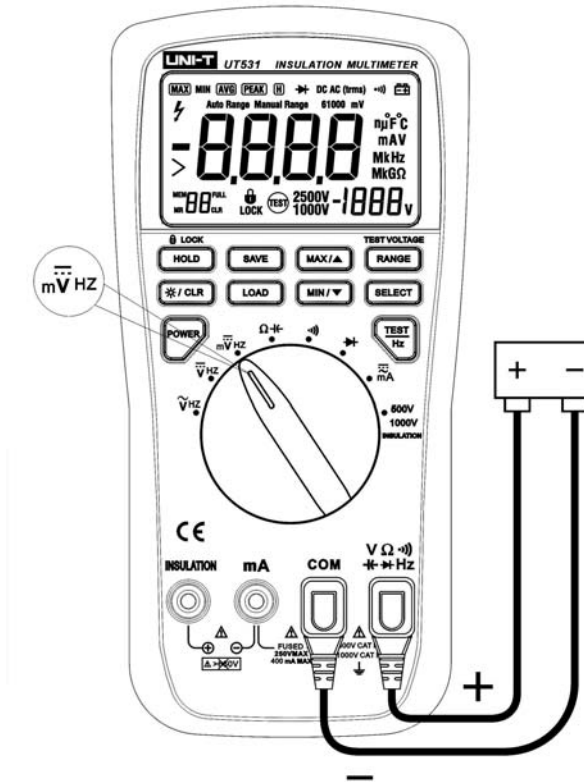

Figure 7.Measuring DC Millivolts
*Measuring DC Millivolts* (see figure 7)